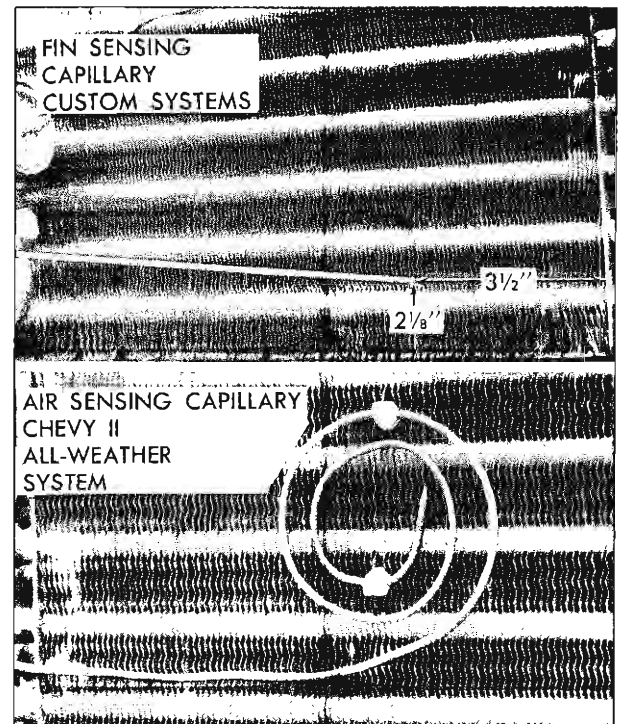

Fig. 60—Thermostatic Switch Capillary Tubes
4. Draw the switch out of the case through the face plate opening. Carefully remove the fin sensing capillary from the evaporator core (fig. 60).
4. Disengage the plastic plug attaching the thermostatic switch capillary tubing to the face of the evaporator core (fig. 60).